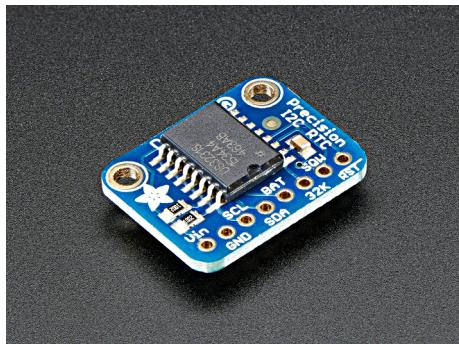

Figure 25: The DS 3231 hardware clock from Adafruit. Photo taken from www.adafruit.com.
- A DS 3231 precision hardware clock from Adafruit; this is a battery powered clock featuring temperature compensation. Fig. 25 shows this component which is about 15 €. A CR1210 battery is also needed.